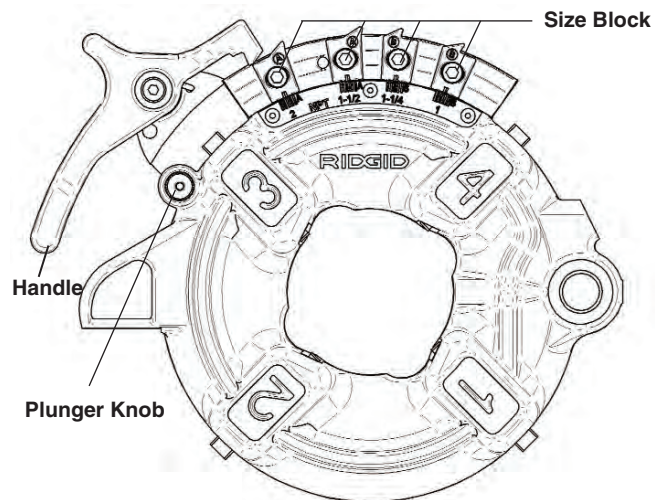

Figure 10 – 816/817 Semi-Automatic Die Head
Semi-automatic die head (*Figure 10*) – When the end of the pipe being threaded is flush with the end of the number 1 die, hit the handle for the dies to release the pipe.
The 816/817 Semi-Automatic Die Head (Figure 10) for right hand threads requires four sets of dies to thread pipe ranging from $\frac{1}{8}$ " through $1\frac{1}{2}$ ". One set of dies is required for each of the following pipe size ranges: ($\frac{1}{8}$ " and $\frac{1}{4}$ " and $\frac{3}{8}$ "), ($\frac{1}{2}$ " and $\frac{3}{4}$ ") and (1" through $1\frac{1}{2}$ "). Bolt threading requires a separate set of dies for each bolt size.
1. Depress handle so that cam plate rests (Figure 10 – Model 816/817 Semi-Automatic Die Head) against the stop (as shown).